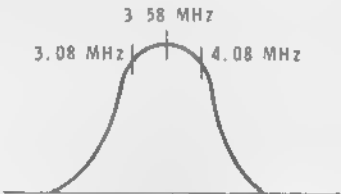

Figure 14A
- () Adjust the input color bandpass coil for the response shown in Figure 14A.